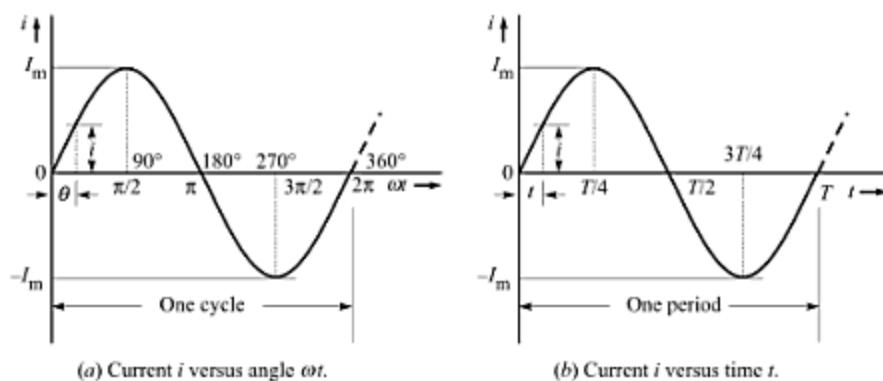

Fig. 9.1 A sinusoidal current.
Today, the vast majority of electrical power is generated, distributed, and consumed in the form of ac power. The term 'ac' means 'alternating current'. Such a current reverses its direction *periodically*. In ac power, the voltages and currents vary with time *sinusoidally*. Such a variation is shown graphically in Fig. 9.1, and is mathematically represented as
Sine wave is the basic waveform used in ac circuits. Let us therefore define certain terms associated with sinusoidal waveform, shown in Fig. 9.1.
(1) Cycle The values of sine wave repeat after every 2π radians. One complete set of positive and negative values of the function (which goes on repeating) is called a *cycle*. As seen in Fig. 9.1, in one cycle the value of current i increases from zero to a maximum value, decreases through zero to a negative maximum value, and then again increases towards zero.
(2) Maximum (or Peak Value) It is the maximum value (denoted as I_m), positive or negative, of the quantity. It is also sometimes called the *amplitude* of the sinusoid.
(3) Instantaneous Value It is the value of the quantity at any instant.
(4) Time Period (or Periodic Time) It is the duration of time required for the quantity to complete one cycle. It is denoted as T .
(5) Frequency It is the number of cycles that occur in one second. It is denoted as f or v . The unit of frequency is hertz (Hz) which is same as cycles/second. Obviously, frequency is the reciprocal of time period,
Consider the full cycle of a sinusoidal wave shown in Fig. 9.1. It has same area of the positive and negative loops. Hence, the algebraic sum of the two areas is zero. Accordingly, *the average value of a sine wave over a full cycle is zero*. This average value does not convey any useful information about the waveform. Therefore, for a sinusoid, we define average value over half-cycle only. In fact, whenever we talk of the *average value of a symmetric periodic waveform*, it is understood to be determined for only half-cycle, either positive or negative.